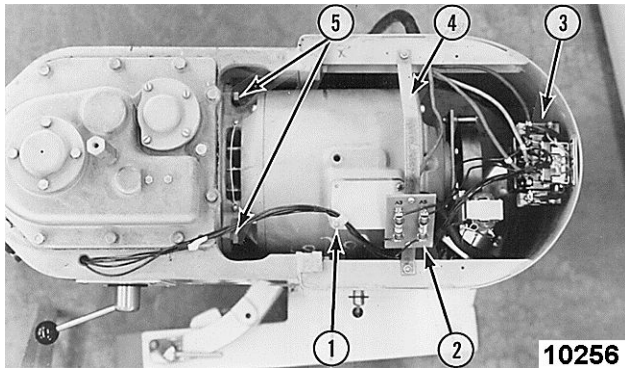

Fig. 93
9. Remove the bolt holding contactor (control panel - P660) to back of mixer [3] Fig. 93.